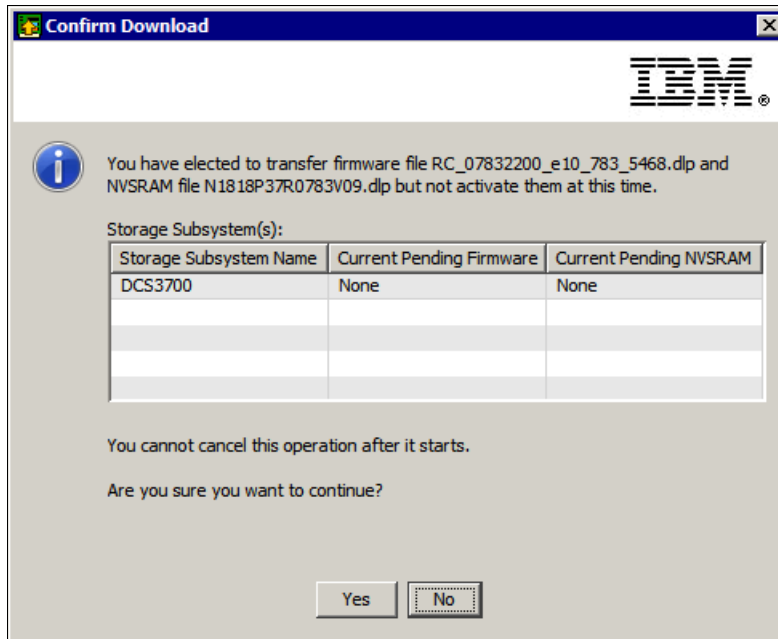

Figure 14-18 Confirm Download
- b. Click **OK**. You are prompted to confirm that you want to transfer the firmware and NVSRAM now but activate the new versions later (Figure 14-18).